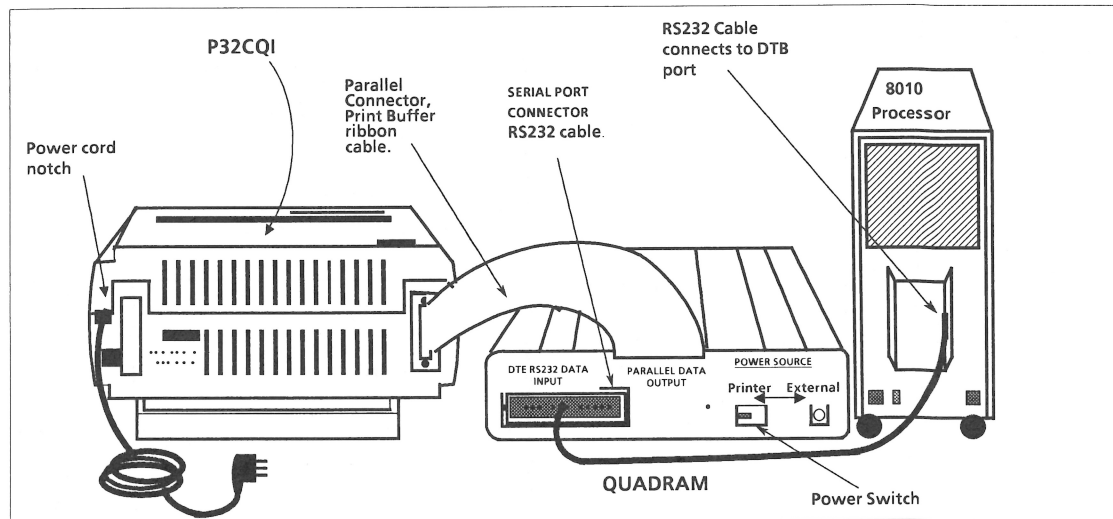

Figure 2-20 P32 Connections
3. OPEN THE TOP COVER AND FEED THE POWER CORD THROUGH THE REAR OF THE PRINTER. DO NOT PULL IT TIGHT. PRESS IT INTO THE CUTOUT PROVIDED IN THE LOWER REAR COVER. (Figure 2-20)
5. CONNECT THE PRINTER TO THE PROCESSOR (Figure 2-20).
- h. Connect the ribbon cable from the PRINT BUFFER to the rear of the PRINTER. (Figure 2-20)